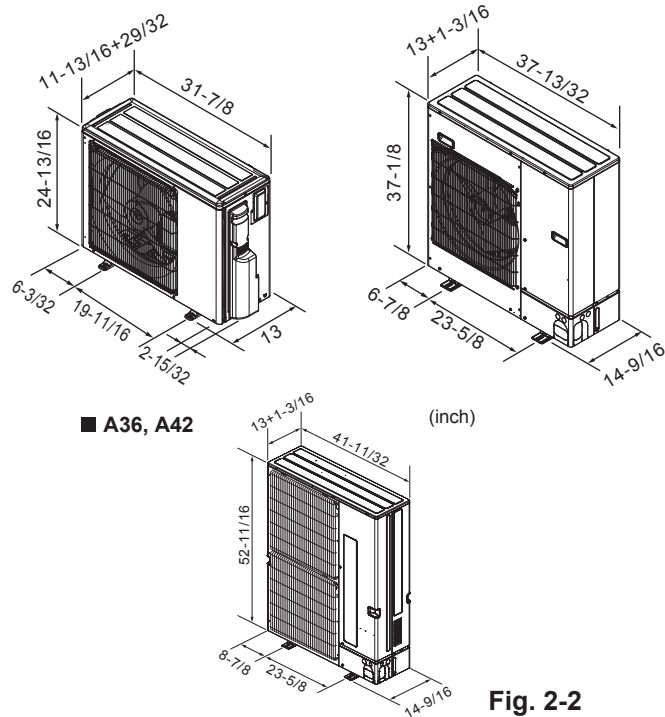

Fig. 2-2
2.3. Outline dimensions (Outdoor unit) (Fig. 2-2)